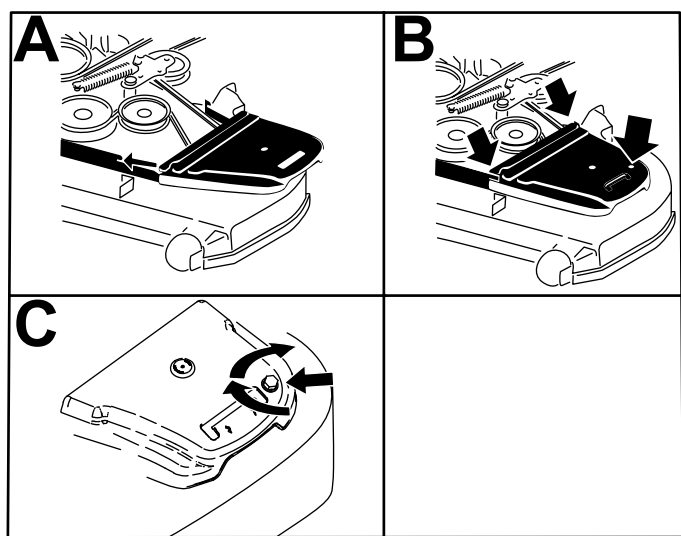

Figure 65
12. Install the belt covers and the bolts attached to them (Figure 65).